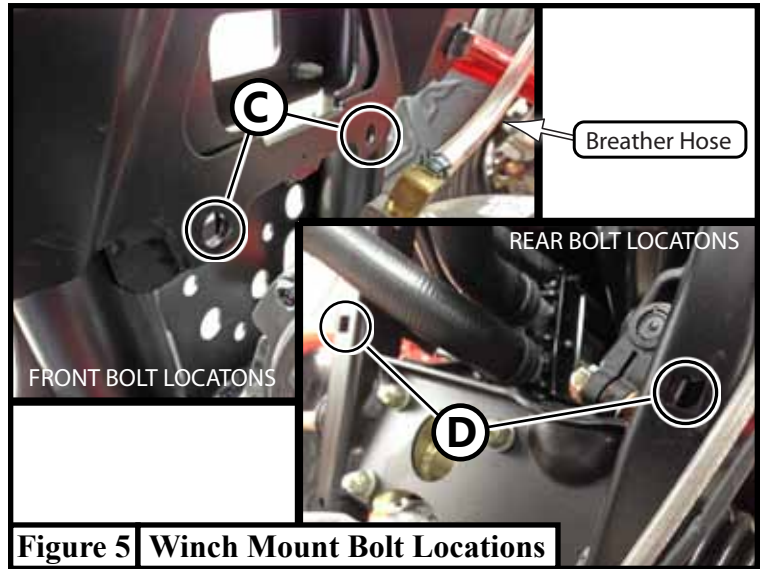

Figure 5 Winch Mount Bolt Locations
- Place winch mount (1) into position from the drivers side of the machine in order to avoid the breather hose for the front differential. Align the winch mount (1) with the bolt holes (C&D) as shown in **Figure 5**.